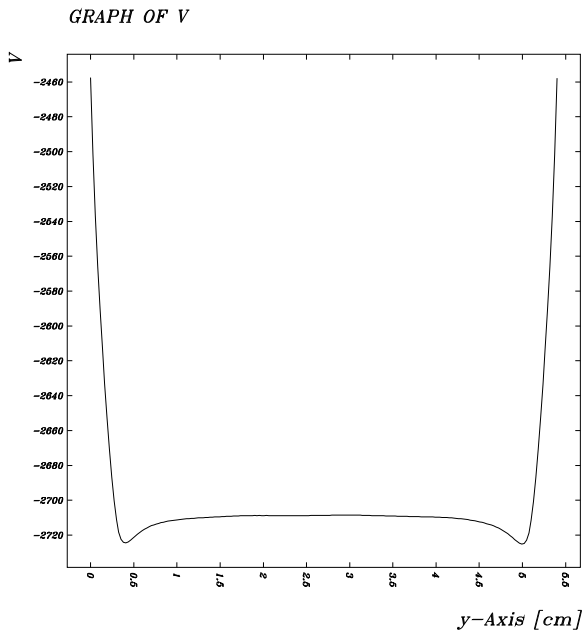

Figure 6. Example of a GRAPH plot.
- as a graph (see Figure 6 on page 45).